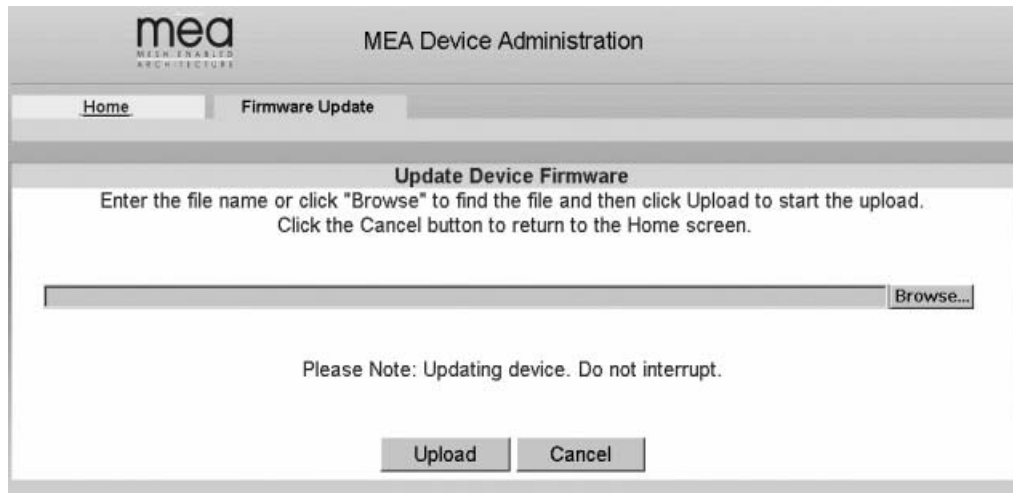

Figure 18. MEA Device Administration Update Device Firmware Window
- . A New Device Firmware window will be displayed as shown in Figure 18